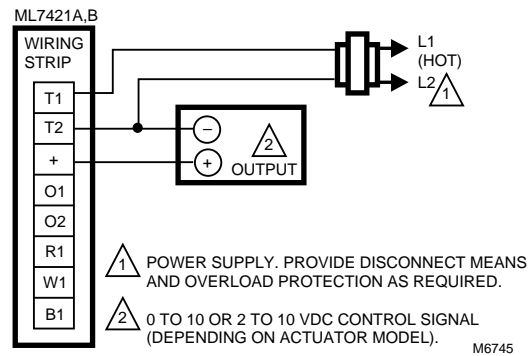

Fig. 4. ML7421 typical wiring diagram.
- 2 Using the wiring diagrams in Fig. 4 through 9, connect the power and control wires to the ML7421. Make sure that all wiring is correct.